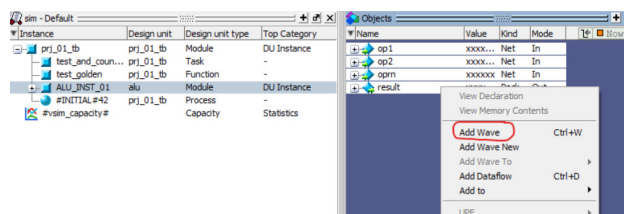

Fig. II.8. Object Window
- Click 'ALU\_INST\_01', click 'View' on the top left bar, and then 'Objects' from the top bar, which will open a window displaying op1, op2, oprn, and result. Select all the options, right-click, and select the 'Add Wave' as shown in Figure II.8 below.